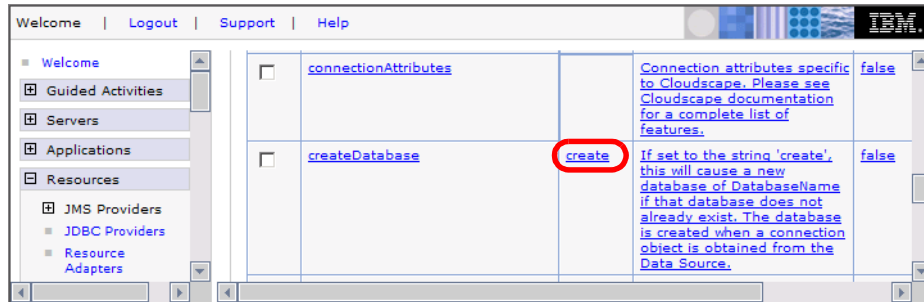

Figure 9-11 Automatic database creation
- ▶ Select the *createDatabase* property and enter a value of create (Figure 9-11). This specification will create the database on the first access.